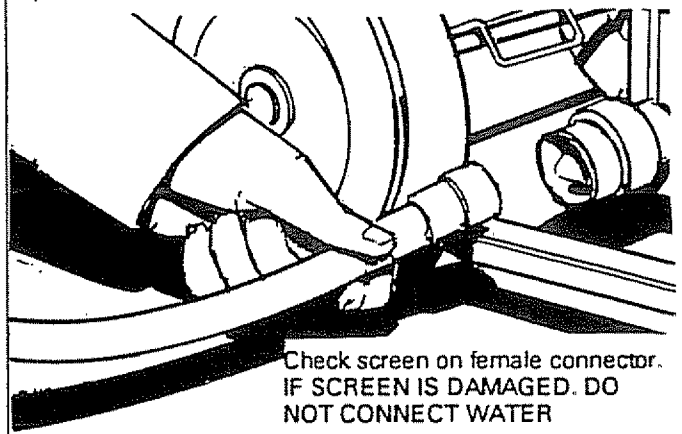

FIG. 6
- Included with this unit is a Quick-Connect fitting that comes attached to Water Inlet on the pump. The quick-connect includes two parts — a Male Connector and a Female Connector (Fig. 6). Inspect Inlet Screen on female connector. Clean it if it contains debris or have it replaced if it is damaged. DO NOT RUN THE PRESSURE WASHER IF THE SCREEN IS DAMAGED.